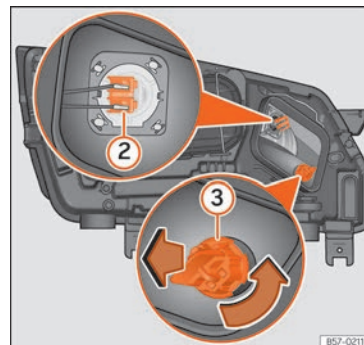

Fig. 111 In the engine compartment: main beam headlight bulb ② and turn signal bulb ③.
3. Slide connector » **Fig. 111** ② to the left or right and pull.
3. Turn the bulb holder » **Fig. 111 ③** anticlockwise and pull.